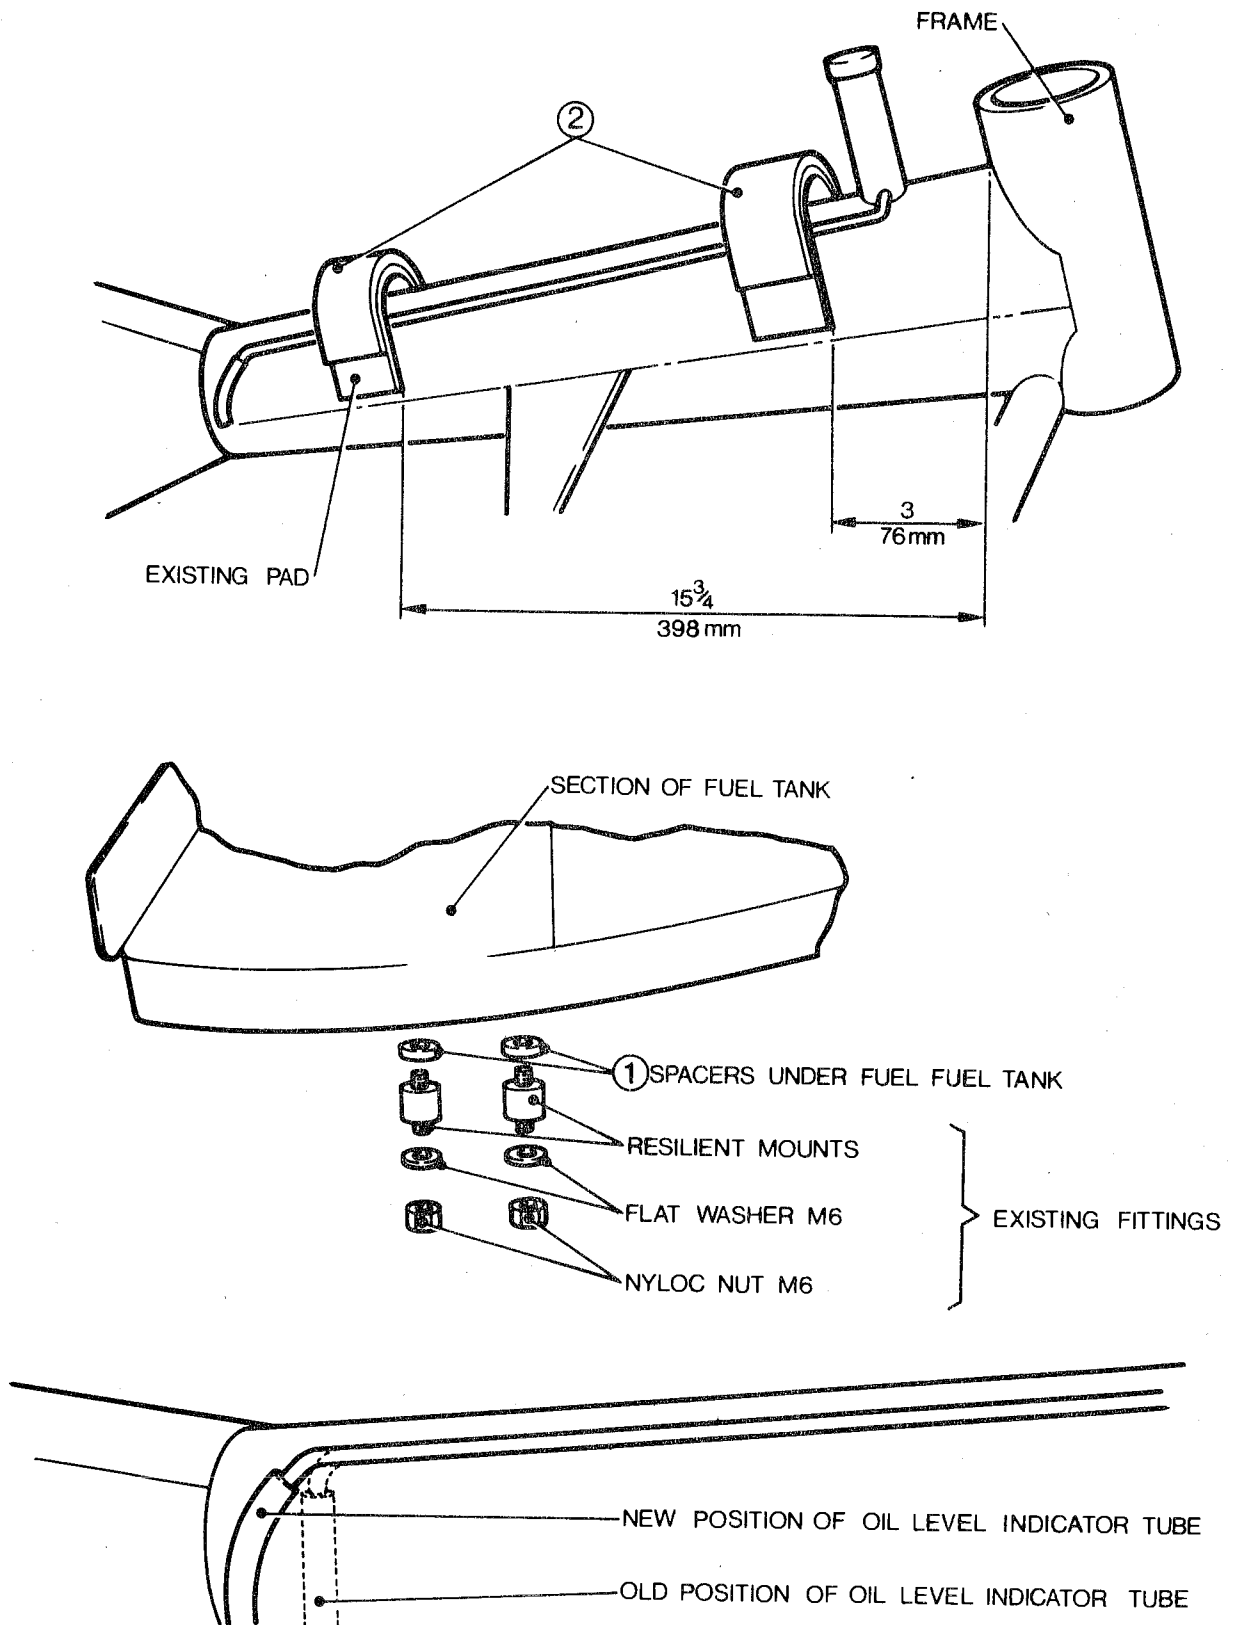

Fig 1 - Fuel tank mounting
9.4 Unscrew the two resilient mounts from the base of the fuel tank, fit one spacer (item 1) to each mount as detailed in Fig 1 and refit mounts to fuel tank.
9.5 Reposition existing foam pads with additional pads (item 2) on frame as detailed in Fig 1.
9.6 Remove oil level indicator tube from oil pipe line, reset end of pipe line as shown in Fig 1 and refit indicator tube.